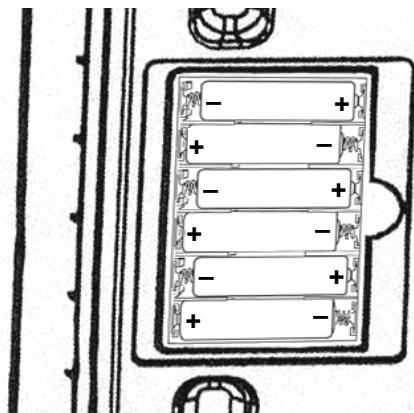

Figure No. 24
3. If installing new batteries, proceed to step 4. If replacing the batteries, remove all six (6) batteries from the battery holder and then proceed to step 4.
4. Install the six (6) new "AA" size batteries in the battery holder, noting the polarity markings located in the battery holder. See Figure No. 24.